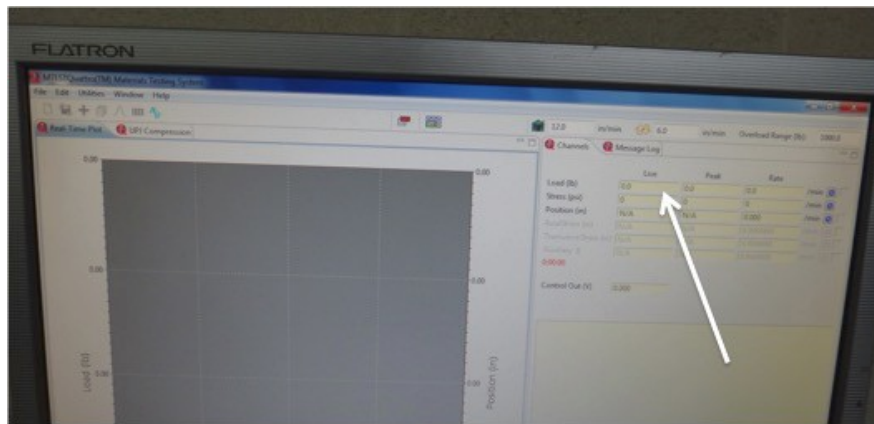

Figure 4: Computer interface to set the pre-load value to zero.
8. Under ‘acquisition’ in the menu, zero the load on unloaded load cell (Figure 4)